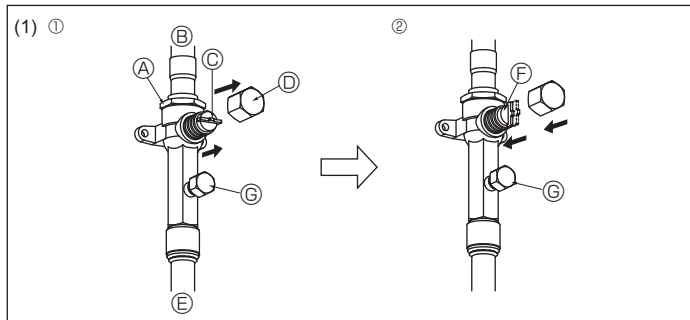
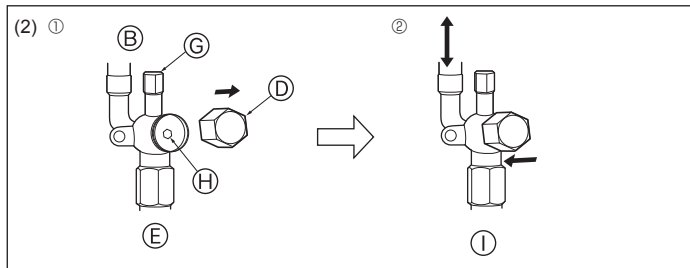

Fig. 4-11
Fig. 4-12
- (1) Gas side (Fig. 4-11)
- ① Remove the cap, pull the handle toward you and rotate 1/4 turn in a counterclockwise direction to open.
- ② Make sure that the stop valve is open completely, push in the handle and rotate the cap back to its original position.
- (2) Liquid side (Fig. 4-12)
- ① Remove the cap and turn the valve rod counterclockwise as far as it will go with the use of a 4 mm hexagonal wrench. Stop turning when it hits the stopper. (ø6.35: Approximately 4.5 revolutions) (ø9.52: Approximately 10 revolutions)
- ④ Valve body
⑤ Unit side
⑥ Handle
⑦ Cap
⑧ Local pipe side
⑨ Open position side
⑩ Service port
⑪ Valve stem